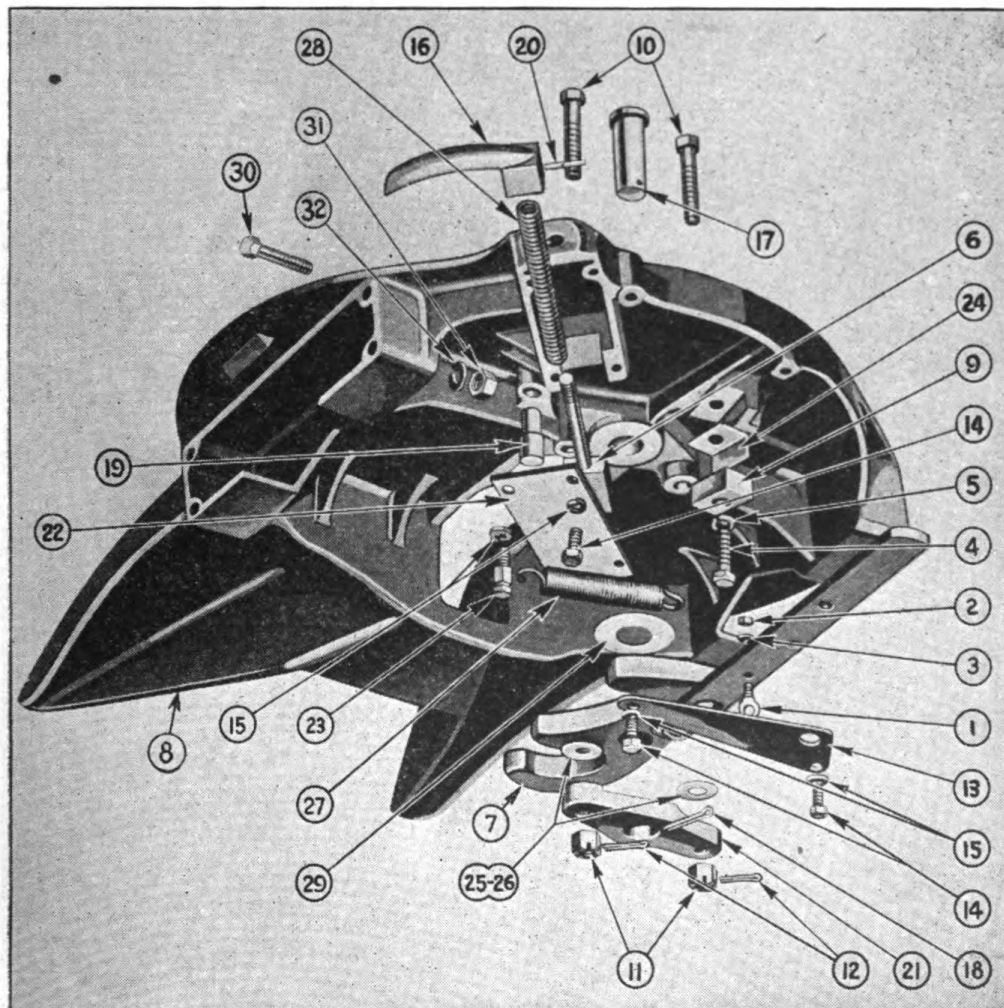

FIGURE 49. COUPLER—EXPLODED—DOLLY.
4. **TESTING AND CORRECTING PLAY IN HOOK** (Fig. 49).—*a.* **NOTE:** At times, difficulty may be encountered when uncoupling. This is no fault of the functional parts of the coupler. The trouble lies in the fact that the trailer king pin is binding on the hook. This is caused by the trailer and tractor being as far apart as possible without actually being uncoupled. All that is necessary to overcome the difficulty is to apply a light pull by hand on the hook handle prior to uncoupling.
b. If the hook pin (17) becomes worn, the coupler will develop an excessive “slap” and lost motion. The following repairs should then be made:
(c) *Installation of hook lock handle* (Fig. 49).—1. When performing this operation disconnect converter gear from trailer.